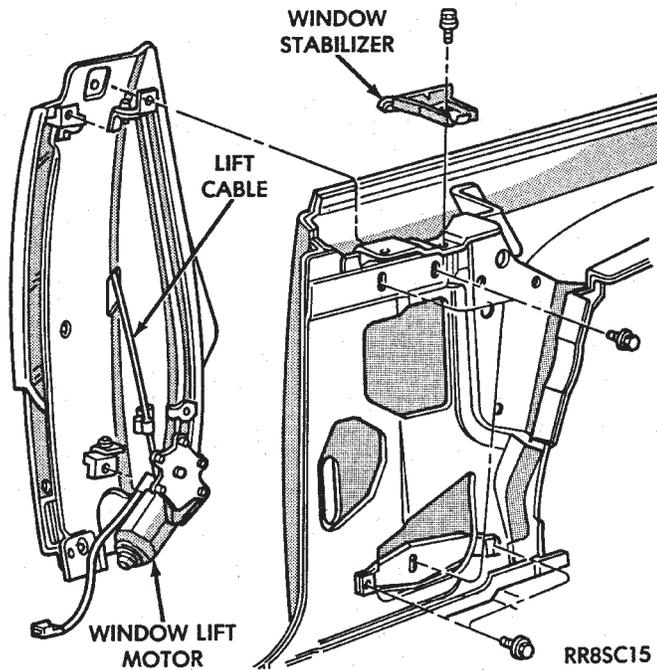

Fig. 20 Power Quarter Window — AJ Body
- (1) Remove the folding top sling well assembly.
- (2) Remove the quarter trim upper moldings.
- (3) Remove the cowl trim and scuff plate panels.
- (4) Remove the rear seat cushion.
- (5) Remove the quarter trim and rear seat back assembly.
- (6) Remove quarter windows assembly (Fig. 20).
- (7) For installation reverse above procedure. Refer to Group 23, Body, for window glass adjustment.